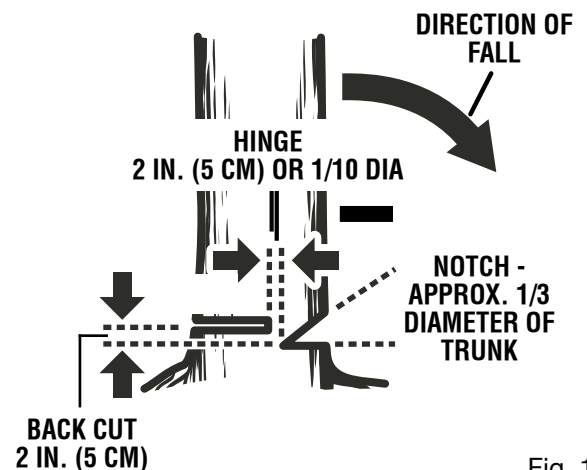

Fig. 14
- **Notched Undercut.** Cut a notch about 1/3 the diameter of the tree, perpendicular to the direction of fall. Make the cuts of the notch so they intersect at a right angle to the line of fall. This notch should be cleaned out to leave a straight line. To keep the weight of the wood off the saw, always make the lower cut of the notch before the upper cut. See Figure 14.
- **Felling Backcut.** The backcut is always made level and horizontal, and at a minimum of 2 in. above the horizontal cut of the notch. See Figures 14 - 15.
- Never cut through to the notch. Always leave a band of wood between the notch and backcut (approximately 2 in. or 1/10 the diameter of the tree). This is called "hinge" or "hingewood." It controls the fall of the tree and prevents slipping or twisting or shoot-back of the tree off the stump. See Figures 14 - 15.